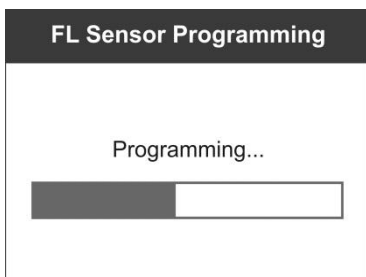
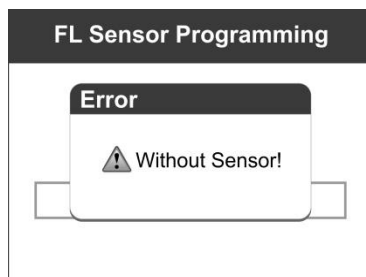

Figure 5.9
Figure 5.10
- 5) Press the **Y** button to write in the new created sensor ID to the MX-Sensor, and the screen will show as below (Figure 5.9), or the **N** button to exit without change. If an error prompt displays as below (Figure 5.10), please try another type of MX-Sensor, for the type of the inserted MX-sensor may be incorrect.